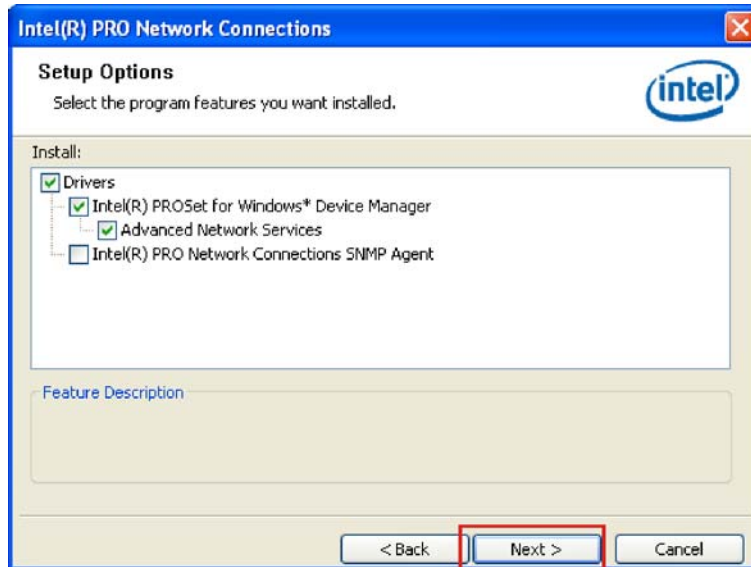

Figure 7-18: LAN Driver Setup Options
Step 8: The Setup Options screen appears (Figure 7-18).